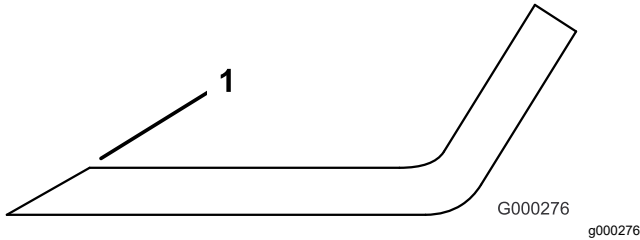

Figure 73
1. Use a file to sharpen the cutting edge at both ends of the blade (Figure 73).
Note: If the blade is not balanced, file some metal off the end of the sail area only (Figure 73).